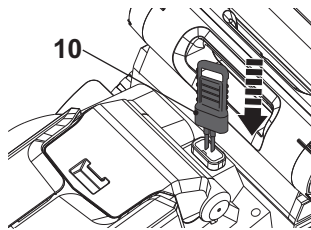
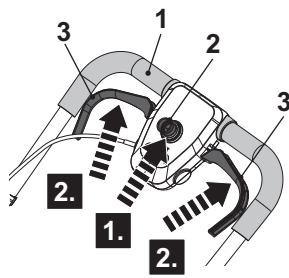

Fig. 17.
Fig. 18
**NOTE:** The product can only be started by pressing the safety switch button (2) followed by squeezing the start levers (3). Reverse operation cannot start the product.
1. Install the battery pack (20) into the battery compartment.
2. Insert the safety key (10) into the slot fully (Fig. 17).
3. Stand behind the grip handle (1).
4. While holding the safety switch button (2) pressed (Fig. 18, step 1), pull the start levers (3) towards the grip handle (1) (Fig. 18, step 2).
5. After the mower starts, release the safety switch button (2).
7. Release the start levers (3) to stop the mower.